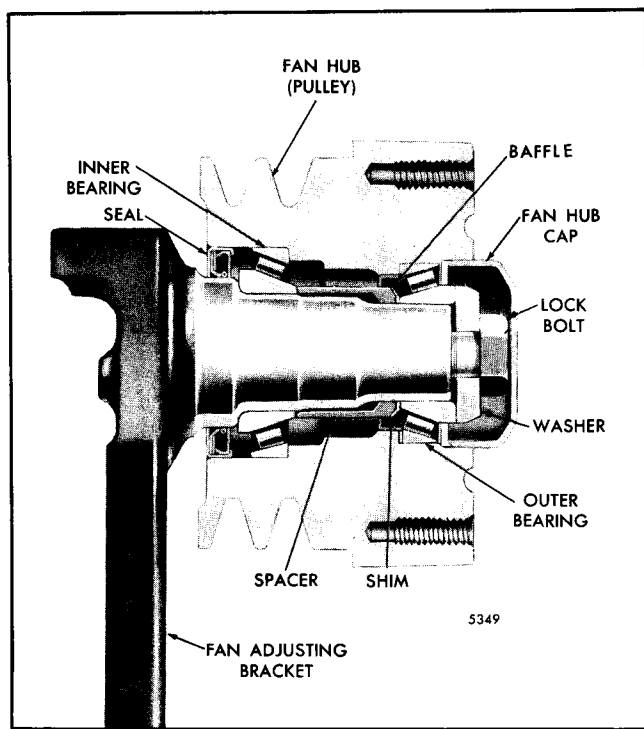

Fig. 5 - Roller Bearing Type Fan Hub Assembly (In-Line Engine)
Effective with engine serial numbers 2D-28185, 3D-66957 and 4D-68816, new fan hub assemblies are being used on the In-line engines. The new assemblies are similar to the integral cast shaft and bracket design, with tapered roller bearings, currently used on the V-type engines (Fig. 5). A new pulley hub assembly similar to the present hub assembly is now being used on certain four and six cylinder 53 Series engines to extend operational life under severe dirt conditions. It includes a front ball bearing and a rear roller bearing along with a hub cap (with relief valve),
1. Refer to Fig. 5 and remove the fan hub cap.